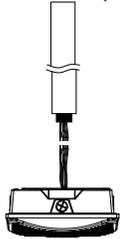

Figure 1
1. Connect the wiring to the local power supply in the 3/4"NPT Stem (Figure 1).